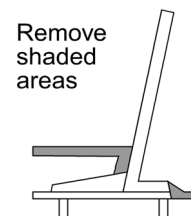

Figure 4
3. Normally, CH-146s are fitted with commercial-style crew seats, although armoured seats are available for mission fits. The kit seats are not quite right, and replacement seats (parts 3) are provided. Modify the seat supports (kit parts 2A and 4A) as shown in Figure 4